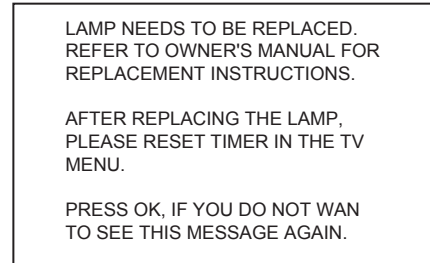

Fig.1 LAMP REPLACEMENT MESSAGE
- (1) The lamp replacement message will appear when need to change the lamp. After replace the lamp, need to reset the timer which is built into TV.
- (2) Life of the lamp unit is about 5000 hours over. Lamp use time can be check at the lamp message MENU.
- (3) If Fig.1 message appears when turn the TV on, need to replace the lamp.
- (4) Use the lamp timer reset only after replacing the lamp.